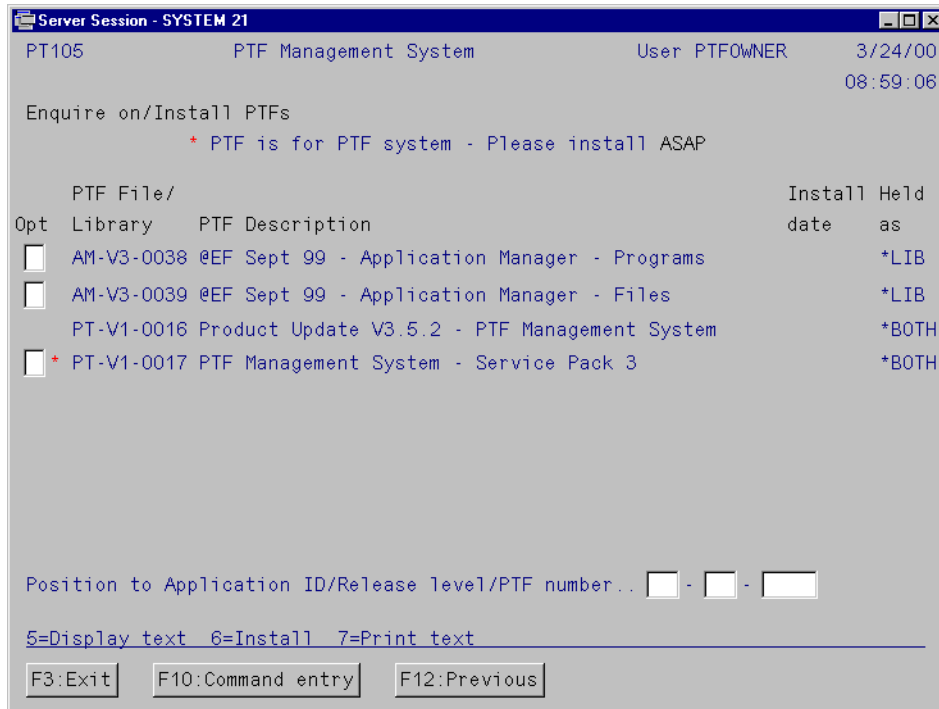

Figure 106. PTF Inquiry/Install display
3. The next screen (Figure 106 on page 202) lists all the PTFs. If a PTF has an “A” displayed next to it, it is already installed into the version you selected on the previous screen.
10. When the installation has completed successfully and the system parameters are set to automatically delete the backup library, you return to the list of PTFs screen (Figure 106 on page 202). Otherwise, you are asked to confirm the deleting of the backup library. Press Enter to delete the backup library, or click **Exit** or press F3 to leave the installation without deleting the backup library.